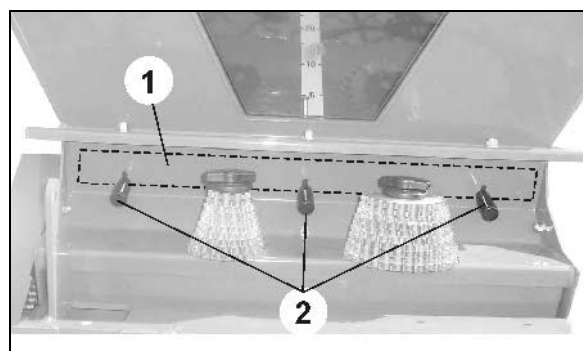

Fig. 21
5. Open shutter slide (Fig. 21/1):
- 5.1 Slacken bolts (Fig. 21/2).
9. Close shutter slide (Fig. 21/1) again.